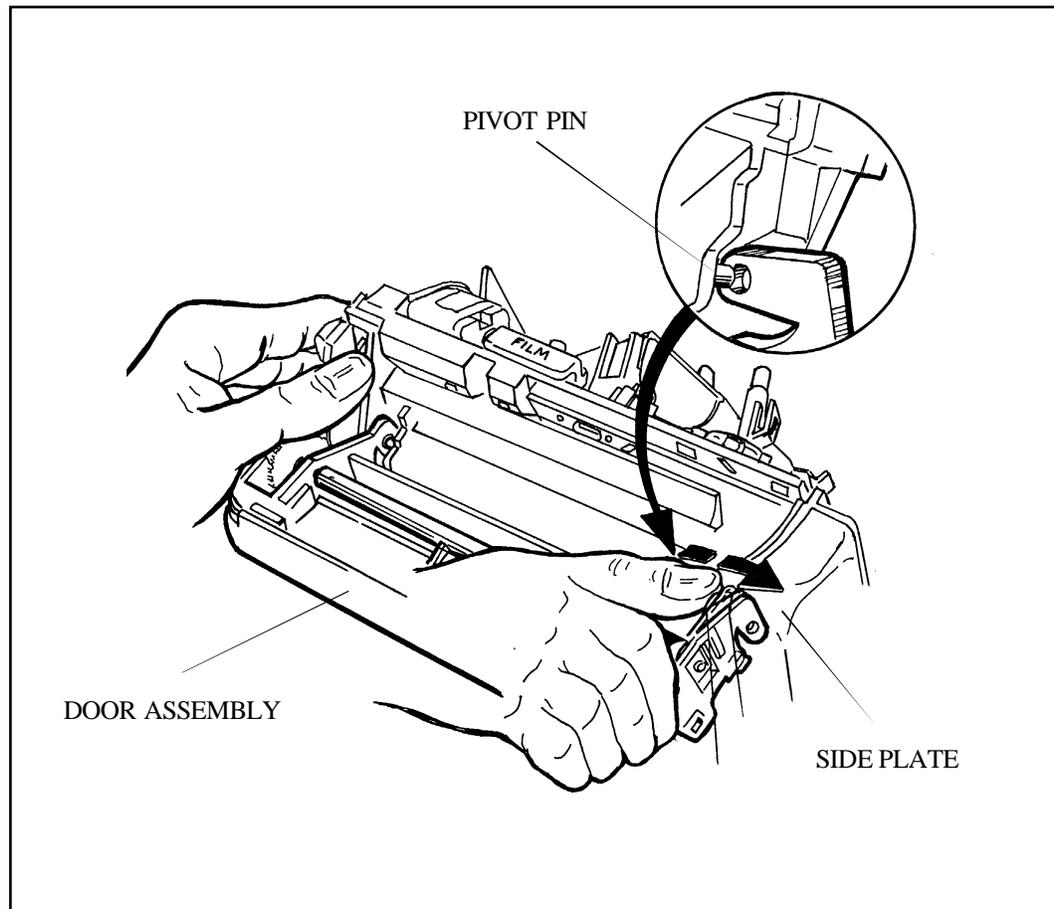

Figure 3-18. Removing Door Assembly
- b. Remove the Door Assembly by springing out the right side plate to release it from its pivot pin (Figure 3-18).
- a. Holding the Door Assembly in its down-most position (fully open), engage the right-hand side plate with its pivot pin on the Mainframe (Figure 3-18).